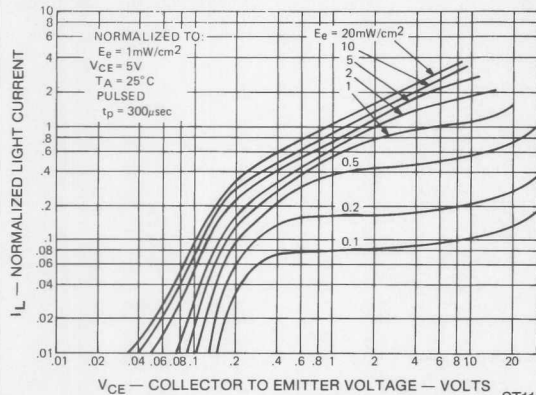
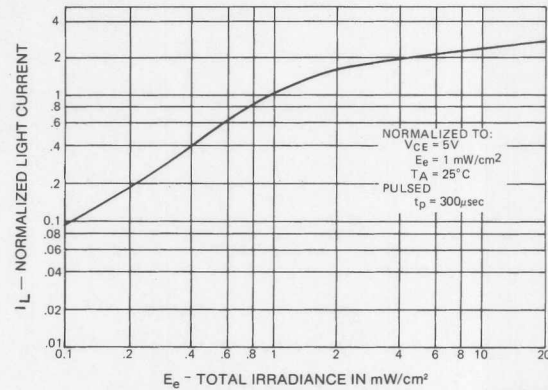

Fig. 1. Light Current vs. Collector to Emitter Voltage ST1102
Fig. 2. Light Current vs. Radiation ST1107
- Figure 1 and figure 2 use light source of tungsten lamp at 2870°K color temperature. A GaAs source of 3.0 mW/cm² is approximately equivalent to a tungsten source, at 2870°K, of 10 mW/cm².